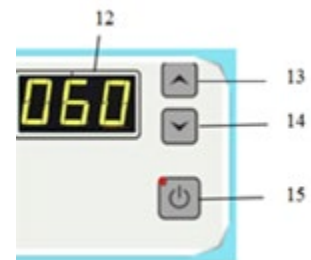

Figure 14
- The setting will be automatically saved and the unit returns the normal operating status after 10 seconds or by clicking  Key (15) (Figure 14).
- Under the normal operating status, press and hold Key (13) to view the temperature setting for drying; press and hold Key (14) to view the actual temperature of the unit; and click  Key (15) to turn off the heater for drying;
- After the drying plate heater is turned off, the Display (12) shows a warning sign of "HOT" if the plate temperature is $\geq 50^{\circ}\text{C}$ and goes off if the plate temperature is $< 50^{\circ}\text{C}$